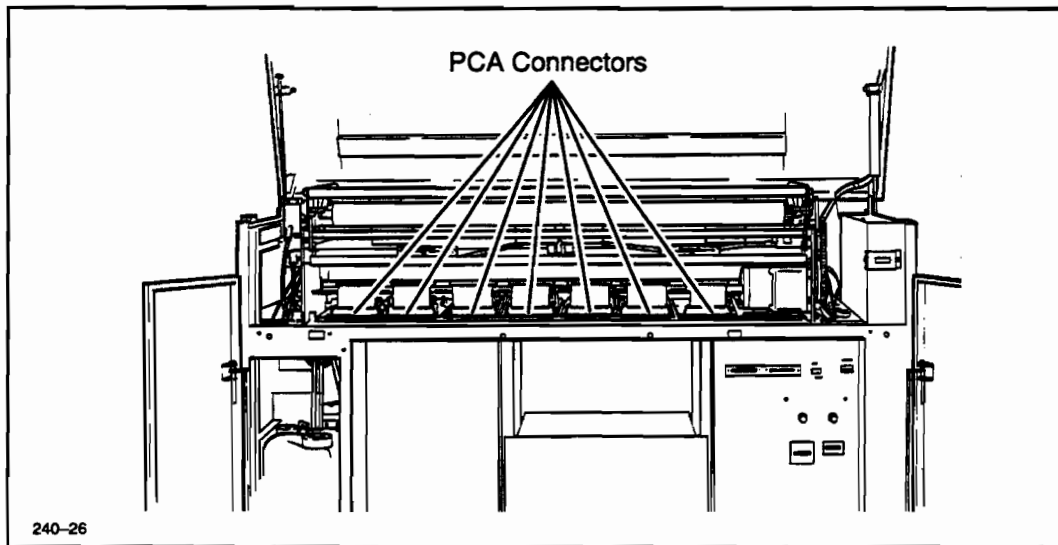

Figure 6-40. Writing Head Connectors
1. Switch the plotter OFF (O) and disconnect the ac power cord and interface cable.
7. Reach through the shield opening to access the writing head cable connectors and remove the connectors from the PED PCAs and CED PCAs. See Figure 6-40.